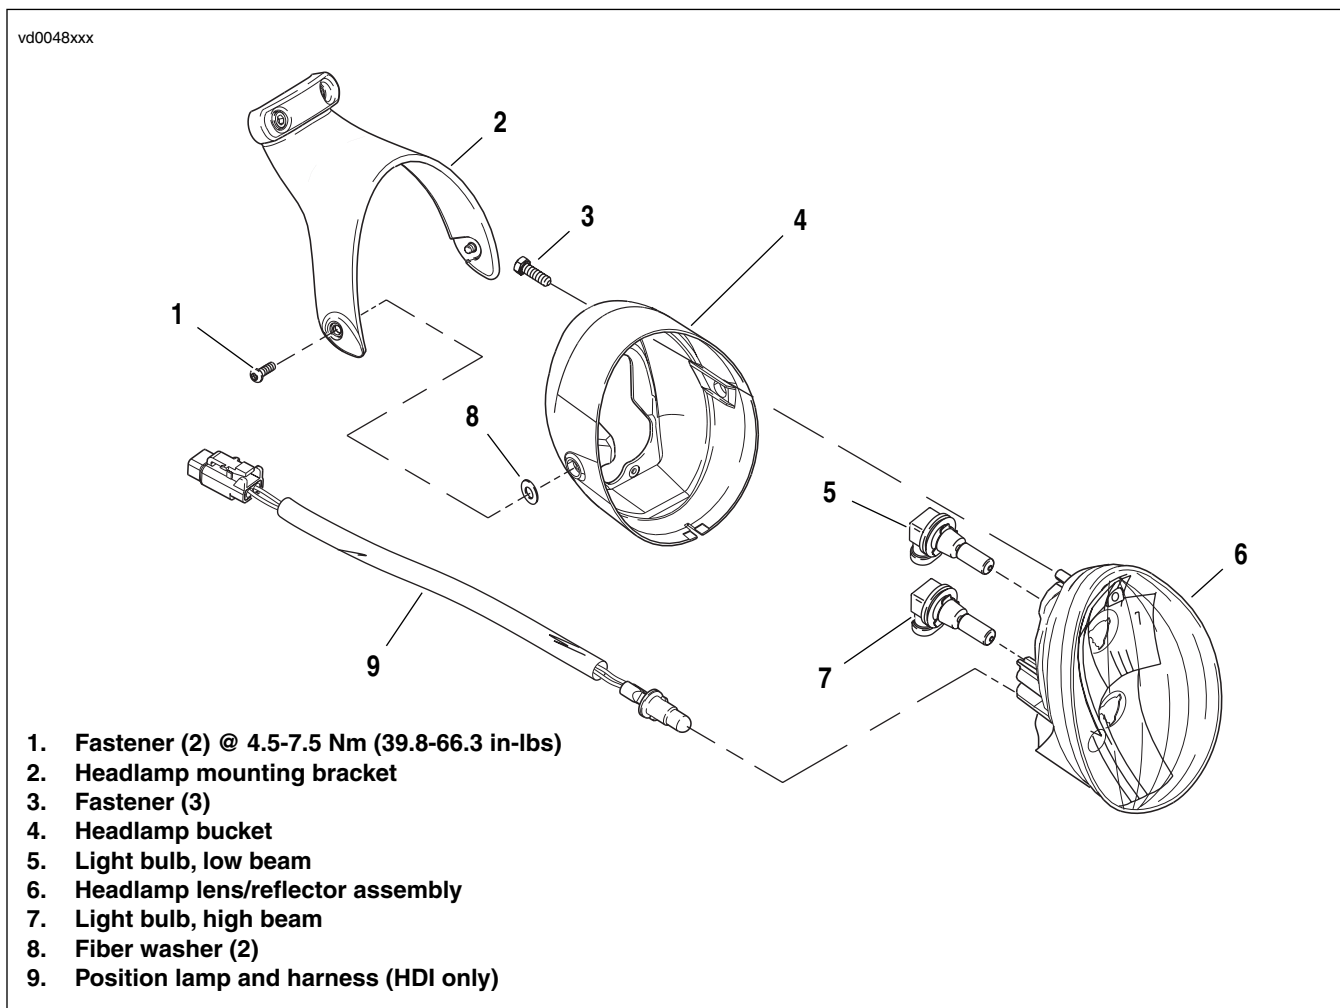

Figure 8-24. Headlamp
1. See Figure 8-24. To replace the low beam or high beam headlamp bulb, reach behind the headlamp bucket and grasp the appropriate headlamp bulb socket connector.
1. See Figure 8-24. To install a **new** headlamp bulb, insert it into the hole in the rear of the headlamp. Facing the headlamp assembly from the rear (looking toward the front of the motorcycle):
2. Gently twist the bulb clockwise (CW) approximately 45 degrees, until it stops.